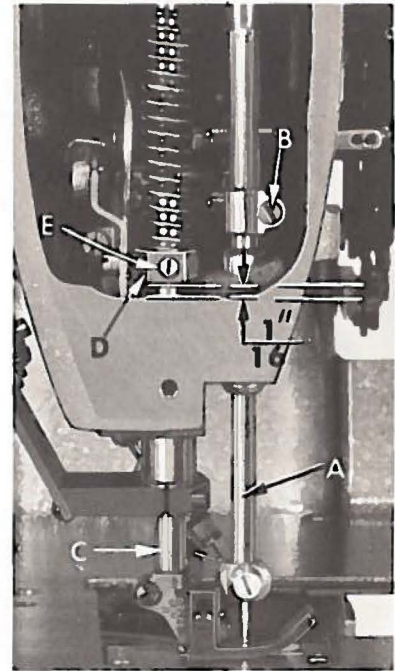
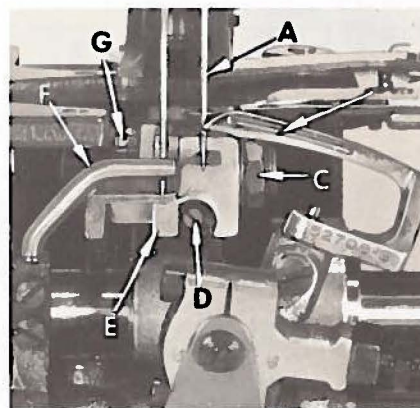
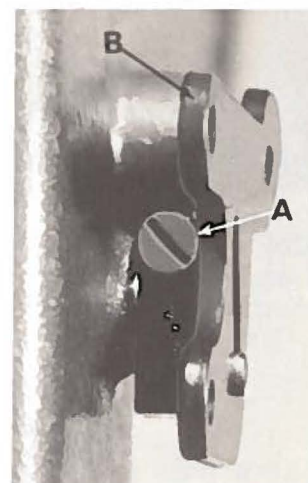

Fig. 4
Fig. 8
Fig. 12
Align the needle bar (A, Fig. 4) and set to height, using the proper test pins and test plate of the right gauge. See chart below:
If test plate and test pins are not available, insert a new set of needles (Type and Size as required) and align the needle bar so that the needles correspond with the vertical face of the needle guard. To turn needle bar, loosen needle bar clamp screw (B, Fig. 4) and turn bar as required. Tighten clamp screw.
On Style 57700 KL, the height of the needle (A, Fig. 8) is correct when the top of its eye is $\frac{3}{64}$ inch below the underside of the looper (B), with the looper point flush with the left side of the left needle. On Style 57700 KM, this dimension should be $\frac{1}{64}$ inch. If adjustment is necessary, loosen screw (B, Fig. 4) and move needle bar (A) up or down as required and retighten screw. Care should be taken not to disturb the alignment of the needle bar when moving the needle bar either up or down.
If feed dog teeth are not parallel with the throat plate, loosen nut (C, Fig. 8) and turn screw (D) clockwise to lower the front teeth and counterclockwise to raise the front teeth. Retighten nut when feed dog is set properly.
Set the rear needle guard (E, Fig. 8) horizontally so that it does not quite contact the rear of the right needle (A) when at its most forward point of travel. A clearance of .005 inch is permissible. It should be set as low as possible, yet have its vertical face approach within about 3/64 inch of the needle, until the point of the looper (B), moving to the left, is even with the needle. To move needle guard forward or backward, merely loosen screw (F), move needle guard as required and retighten screw. To raise or lower needle guard, loosen screw (F) and turn screw (G) clockwise to lower needle guard or counterclockwise to raise it. Retighten screw (F) after guard is properly set.
If adjustment is needed, loosen tension release lever screw (A, Fig. 12), located at the back of the machine and move tension disc separator as required. Retighten screw. After adjustment there should be no binding at any point.
The height of the presser bar (C, Fig. 4) is set correctly if it is possible to remove the presser foot when the foot lifter lever (B, Fig. 12) is fully depressed. Also there should be approximately $1/16$ inch clearance between lower surface of the presser bar connection and guide (D, Fig. 4) and the bottom surface of head opening in the bed when the foot lifter lever is released and the presser foot resting on the throat plate, with the feed dog down below the throat plate.